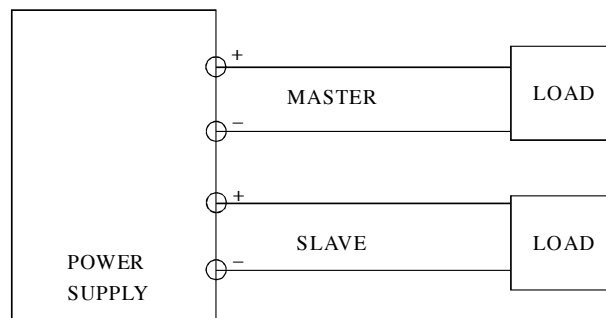

Fig.4-2 Independent Operation.
- Fig.4-2 illustrates the connection procedure.